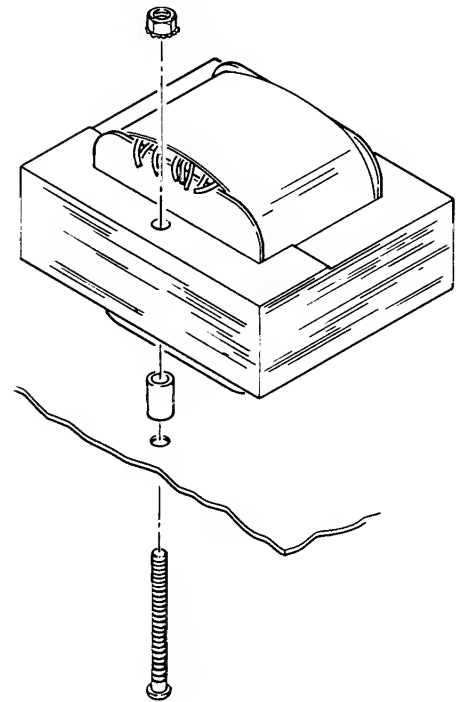

FIGURE 6B
2. Place the optional output transformer in the corner of the chassis, per Figure 11, and secure it at the two holes in the bottom of the chassis with the hardware provided, per Figure 6B.